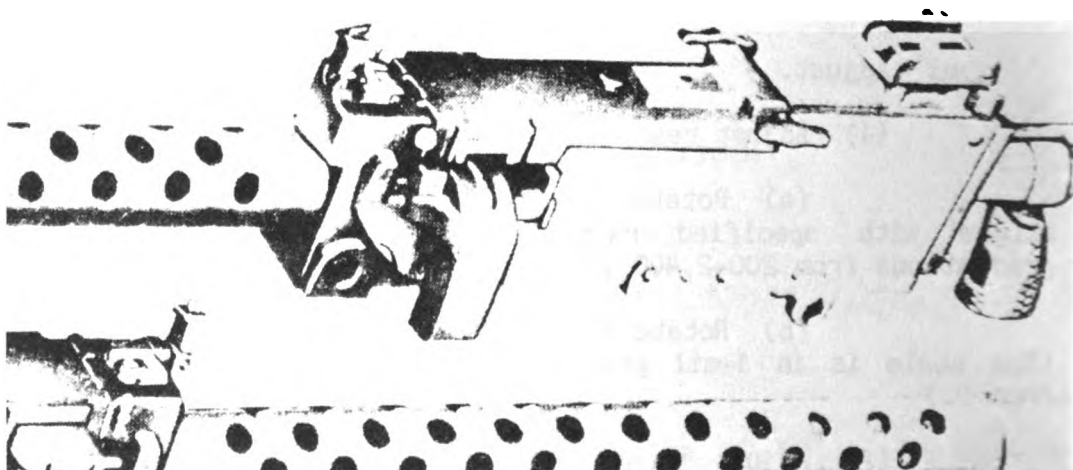

Figure 2
(2) Adjust front sight by turning the adjusting nut to raise or lower front sight blade. (See fig. 2.)